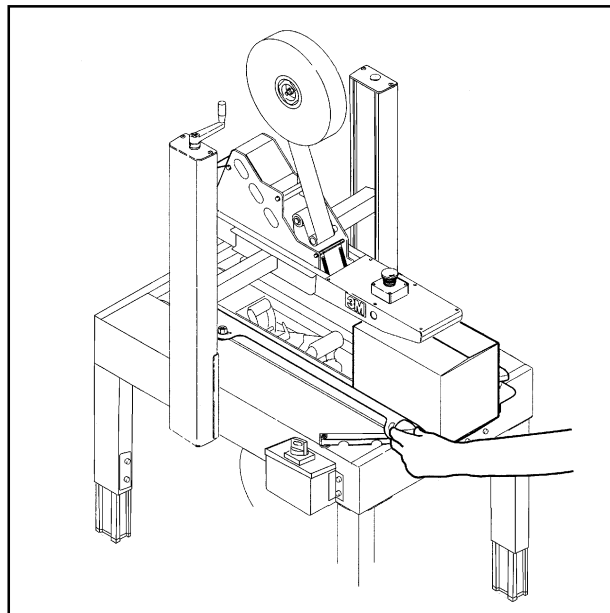

Figure 3-3—Adjust Side Guides
2. ADJUST SIDE GUIDES (Figure 3-3)